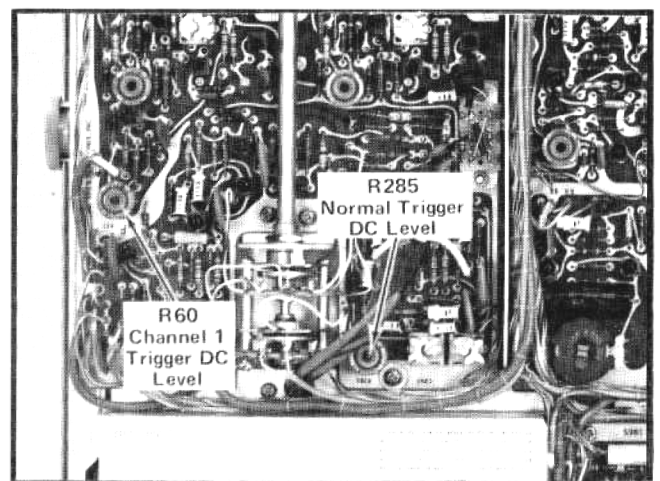

Fig. 5-12. Location of Triggering DC level adjustments (Vertical Preamp board).
d. ADJUST—Channel 1 Trigger DC Level adjustment R60 (see Fig. 5-12) for a stable display.
- g. ADJUST—Normal Trigger DC Level adjustment R285 (see Fig. 5-12) for a stable display.